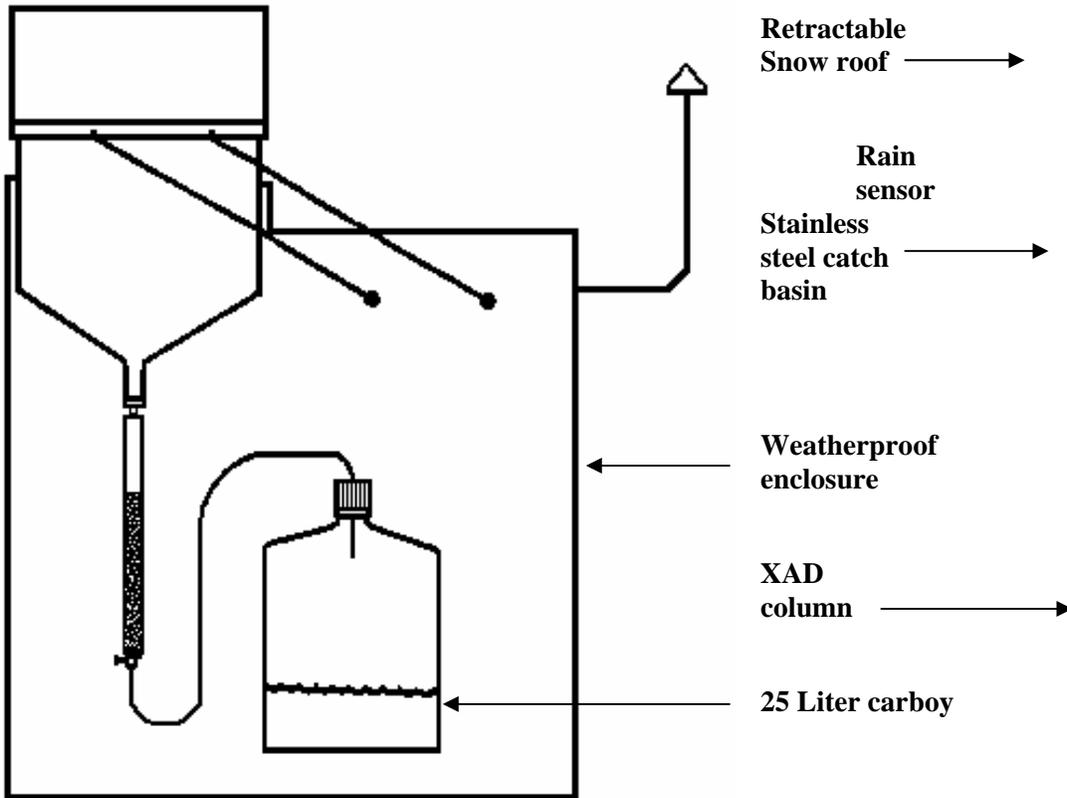

Figure 2. Schematic of the MIC Precipitation Collector
A diagram of the MIC sampler and XAD column assembly is shown in Figure 2. General maintenance and trouble shooting are covered in section 1.5.
- 3) Rinse the collection surface with about 200 mL of DI water (one wash bottle full) while wiping with the piece of pre-cleaned glass fiber filter sent with the monthly supplies. This step removes adhering particles from the collection surface. Allow rinsings to pass through the column until the water level is halfway between the top of the resin bed and the top of the column (see Figure 2). If the temperature is so cold that water freezes on contact with the funnel, simply wipe of the collection surface with a dry piece of filter and go to Step 4.